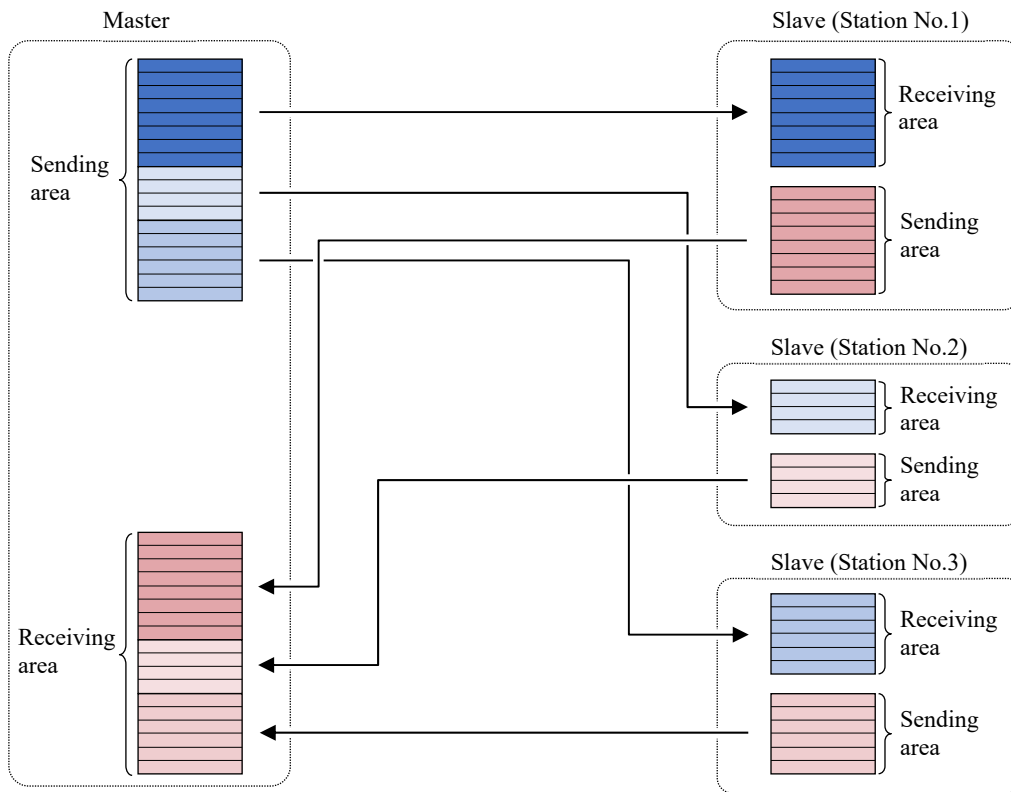

Figure 3.44 HSDL basic operation
- The data transferred by master unit and slave unit is called “Link data”, and the area that stores the link data is called ”Link area” (Figure 3.44 □). Link areas are divided into “sending area” and “receiving area”.